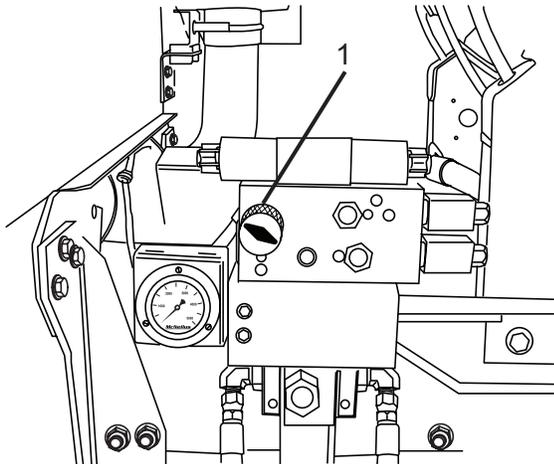

Figure 1: Pressure Reducing Valve
- Turn the pressure reducing valve fully counterclockwise to the minimum adjustment (see Figure 1, Item 1)